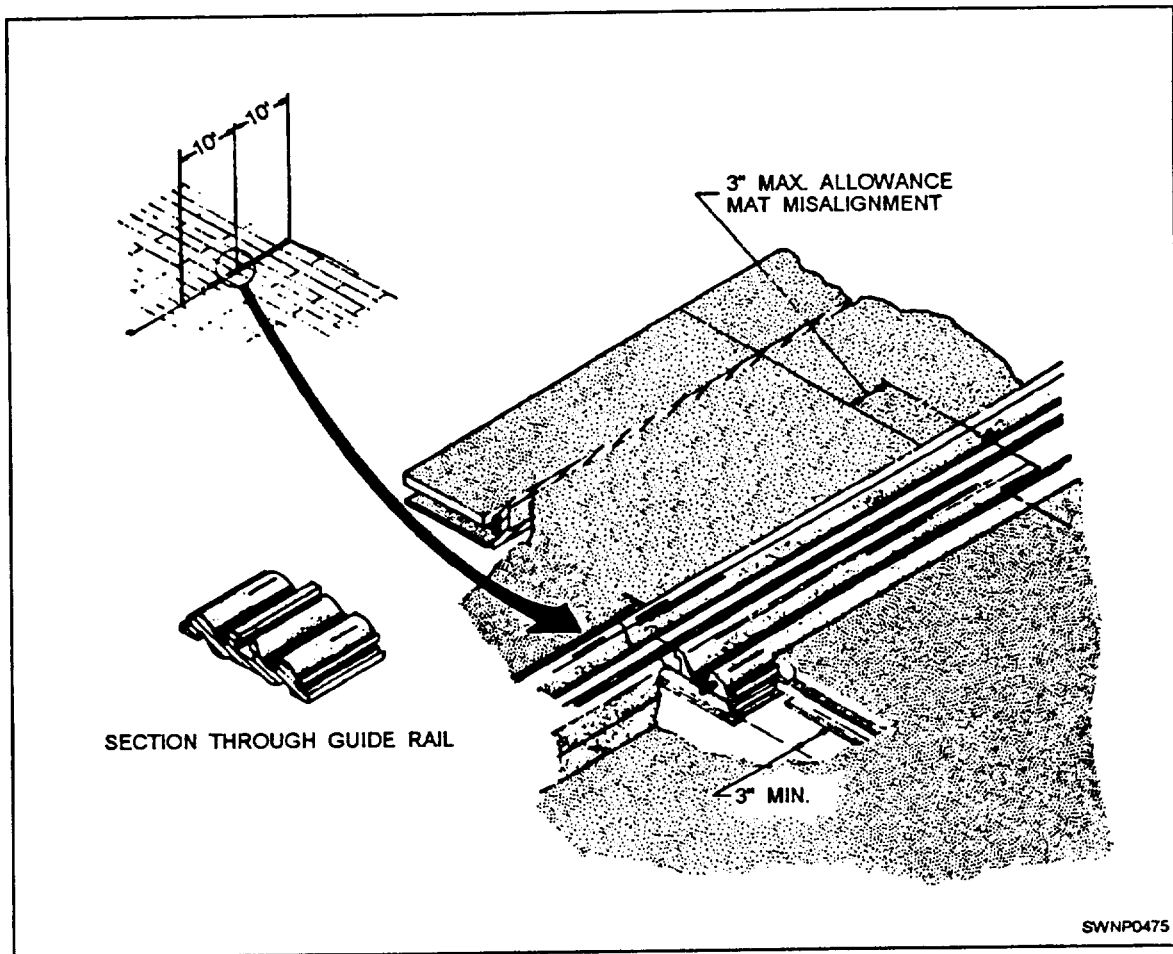

Figure 11-23.—Laying of guide rails and mats.
5. Lay the 18-foot section of AM-2 matting, as shown in figure 11-22. Insert the mat-locking bars between the guide rail and the mat. (See fig. 11-23.)